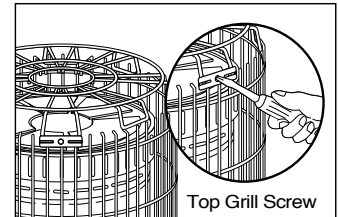

Fig.7
**E) INSTALLING TOP GUARD:** (Fig.7)